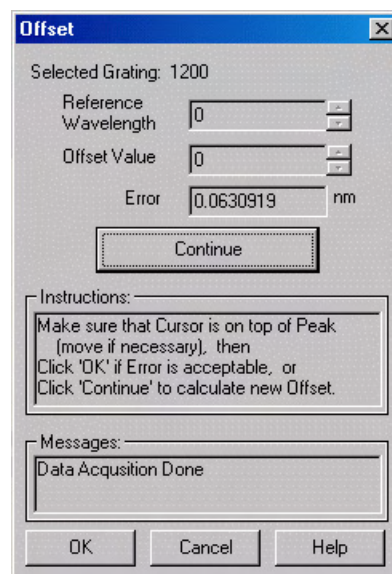

Figure 72. Offset dialog box
2. In the Spectrograph Calibration dialog box, click on the **Offset** button. This will open the Offset dialog box (Figure 72).